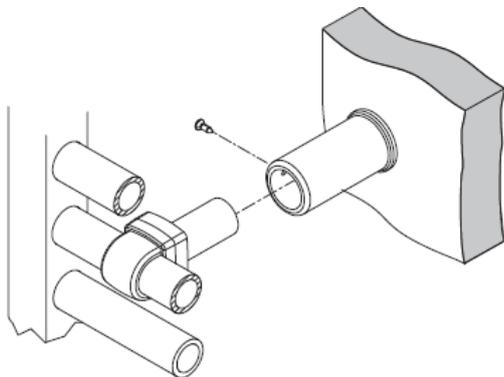

Fig. 6
4. Lift the towel rail completely with the collars attached and align with the outer bracket sleeves which were previously fixed to the wall. Insert the inner sleeve brackets into the outer sleeve brackets and fix in place using the position locking screws (E). The rail is then locked in place by rotating the pins a quarter turn - see Fig.6